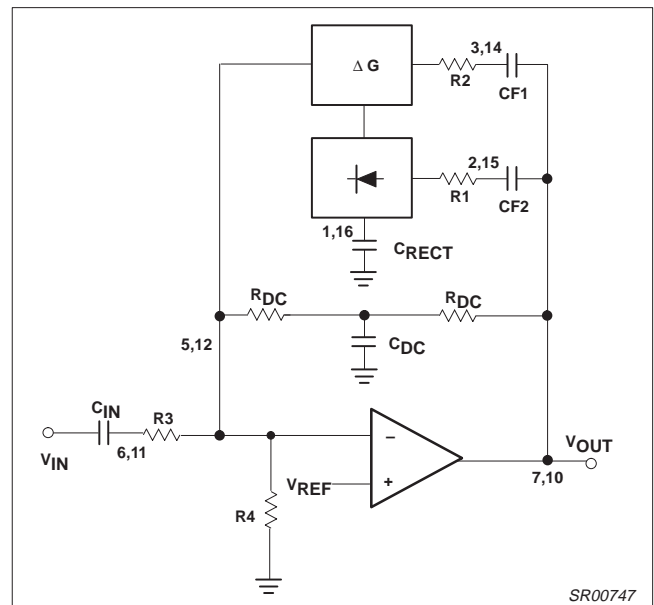

Figure 7. Basic Compressor
1) DC bias the output half way between the supply and ground to get maximum headroom. The circuit in Figure 7 is designed around a system supply of 6V, thus the output DC level should be 3V.